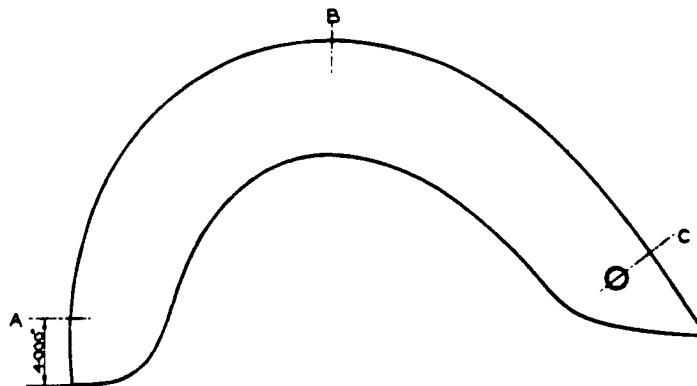

FIG. 3.
- (ii) Mark off positions of 'A' and 'B' tongue centres on the outer edge of the wheel fairing as shown on Fig. 3. 'A' centre should be 4.000" from the bottom of the leading edge and 'B' centre equidistant from 'A' and 'C' centres on the outer edge of the fairing.